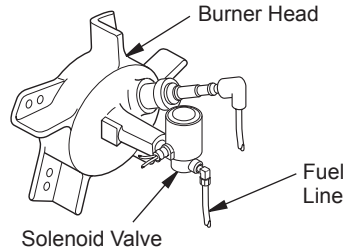

Figure 15 - Fuel Line at Solenoid Valve
3. Use 7/16" wrench and tighten fuel lines at solenoid valve, pump and fuel filter canister (if equipped) (see Figures 15 and 16).